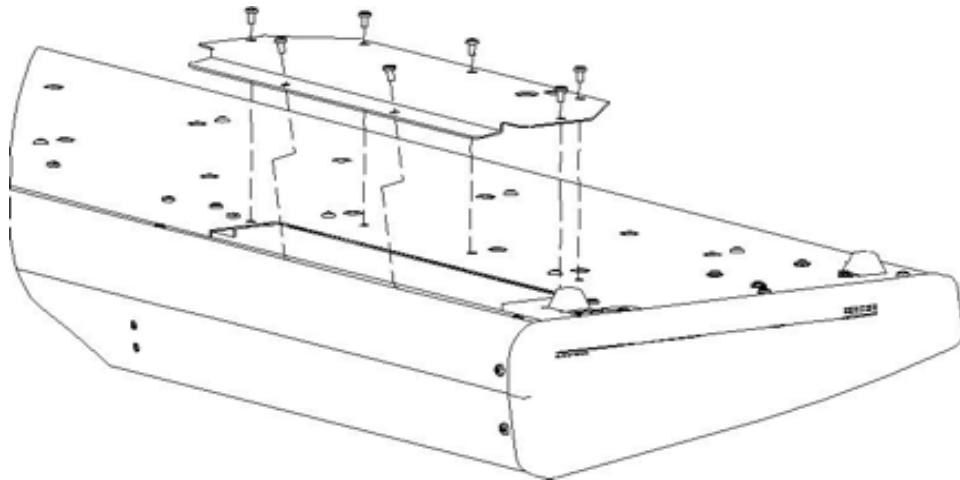

Figure 1: Removing the access panel
4. Using a #2 (small) Phillips screwdriver, remove the seven screws that secure the access panel, as shown in Figure 1.